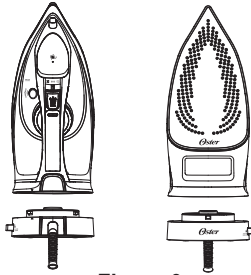

Figure 3
3. For first use, **WAIT** until the Indicator Light turns solid green; then the iron is ready for use. Hold iron by the handle and remove from the base (Figure 3).